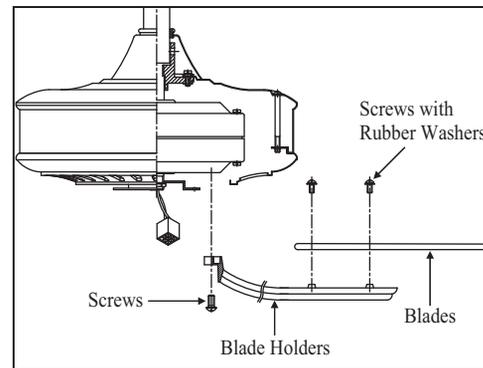

Figure 16
1. Attach the fan blade to the blade holder using the screws with rubber washers provided, tighten screws securely. (Fig. 16)
2. Align the holes in the motor and the blade holder, then secure with the screws pre-installed on the blade holder, tighten screws securely. (Fig. 16)